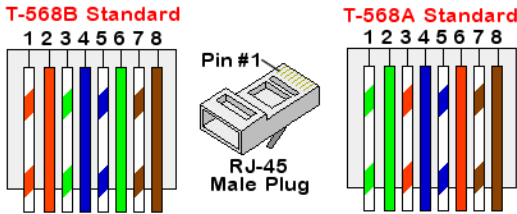

Figure 19: Standard cable wiring
- Insert the eight wires into an RJ45 connector, as described in Figure 19.
- For the switch/router side, use a pre-crimped cable or use a crimper to prepare an RJ45 communication connector: Insert the eight wires into the RJ45 connector in the same order as in Figure 19.